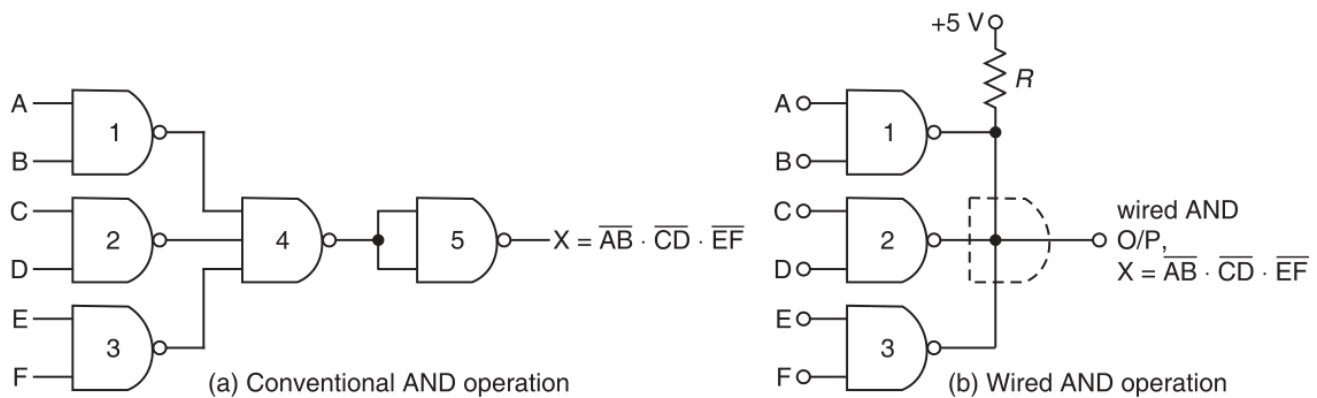

Figure 16.8 ANDing of TTL gates.
- **Wired-AND Operation (Kumar, p. 905, Figure 16.8):** Multiple open-collector outputs can be tied directly to the same wire! If **any** gate turns its Q_4 ON, it pulls the shared wire to 0 V. The wire only reaches +5 V if **all** gates release their transistors into cutoff. This performs an automatic **Wired-AND** function without requiring an extra physical AND gate:
Figure 16.8: Direct wired-AND connection of two open-collector TTL gates using an external pull-up resistor. Sourced from A. Anand Kumar, *Fundamentals of Digital Circuits (4th Ed.)*, p. 905 (printed p. 873).